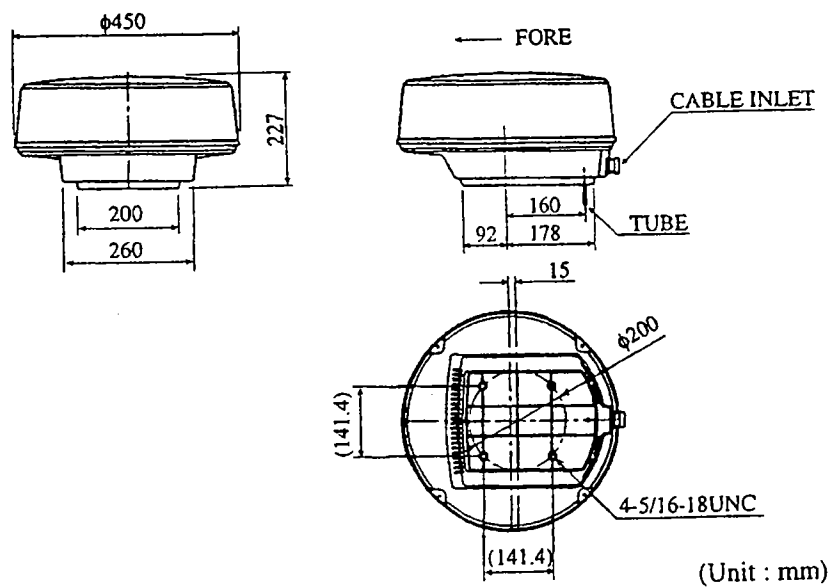

FIG. 103 SCANNER MOUNTING DIMENSION
- Fig. 103 MOUNTING DIMENSIONS OF SCANNER UNIT NKE-1044A